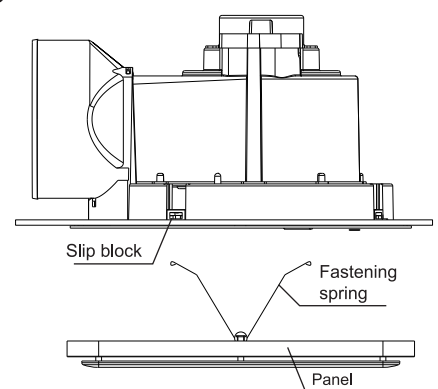

Figure 3: Fix the fan in place and install cover
*Position fan in hole, rotate mounting screws with a screwdriver until slip blocks firmly secure fan onto ceiling plaster. Do not over-tighten (see figure 3)